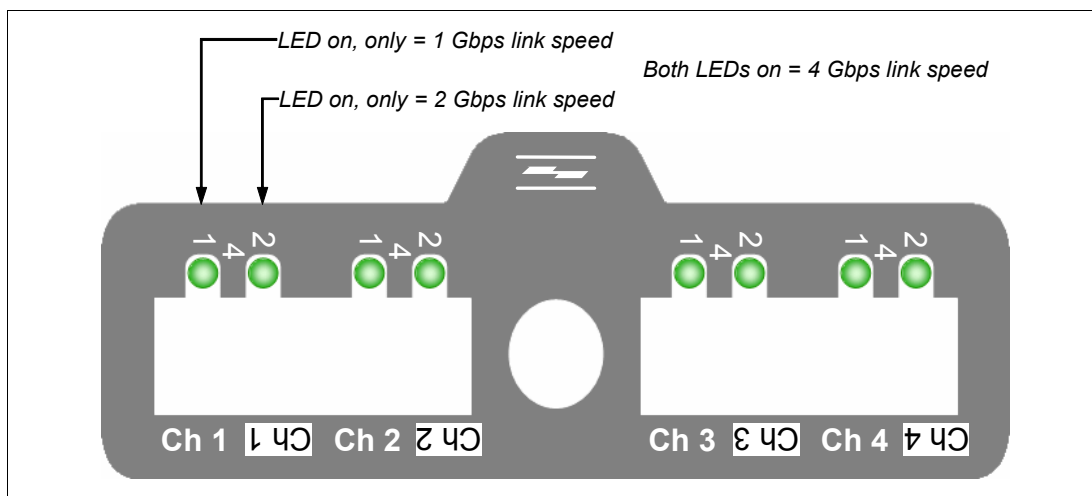

Figure 2-19 4 Gbps HIC faceplate design
- ▶ Figure 2-19 describes the LEDs for a 4 Gbps FC HIC.